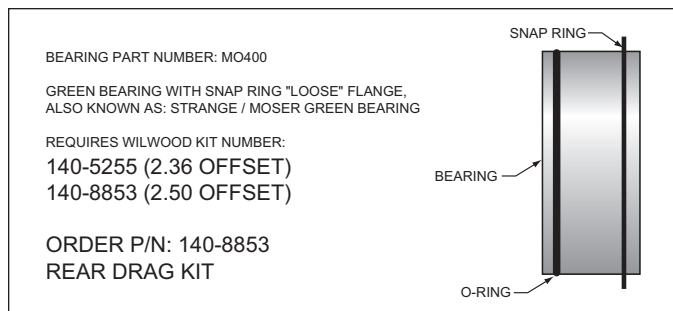

Figure 2. Loose Fit Retainer Bearing Configuration
- It is important to verify which bearing you have. There are two types of "Green Bearings" being supplied by axle manufacturers, each one requires a specific Wilwood rear disc brake kit for proper installation. Your setup should look like Figure 2, otherwise you have the wrong kit. Rear brake kits are not supplied with hydraulic lines or fittings and may require the purchase of additional lines or fittings to complete the installation. Wilwood offers an extensive listing of brake lines and fittings on our web site: www.wilwood.com.